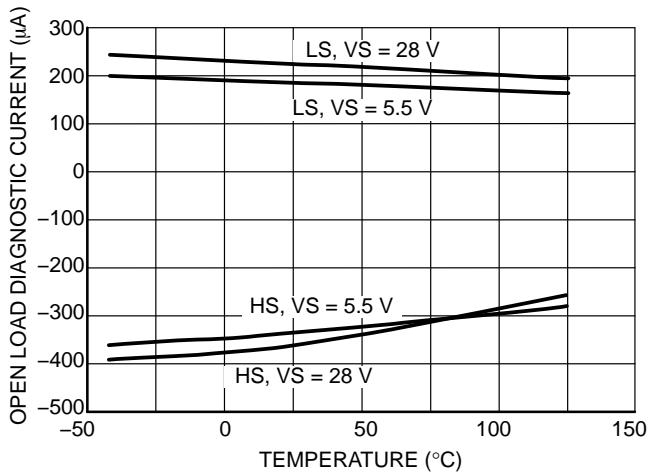

Figure 19. Open Load Detect Current vs. Temperature
10. Refer to Figures 19 and 20 for open load diagnostic current behavior.